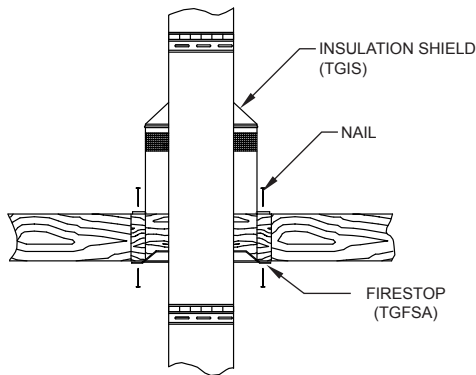
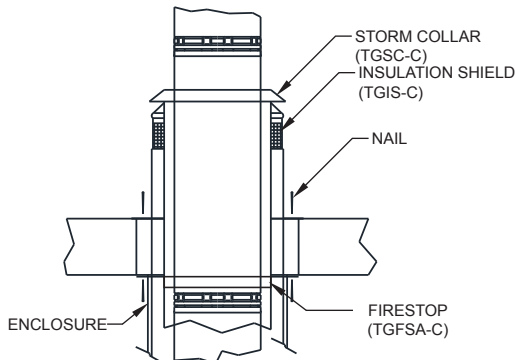
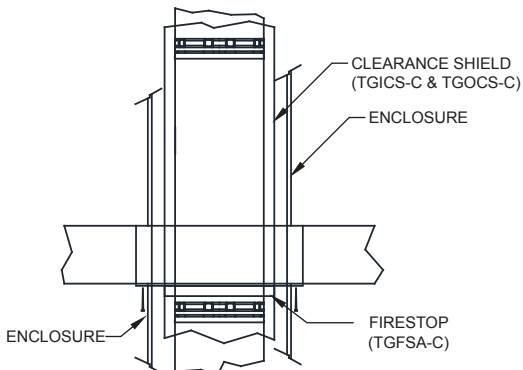

FIG. 6: CHIMNEY IS ENCLOSED BELOW THE ATTIC
FIG. 6a: CHIMNEY IS ENCLOSED BELOW THE ATTIC AND ATTIC IS UNENCLOSED
FIG. 6b: CHIMNEY IS ENCLOSED BELOW THE ATTIC AND ENCLOSED IN THE ATTIC
- The first chimney section through the joist area into attic is to be approximately two (2) feet. If the pipe sections in the levels below and in the attic are not enclosed an insulation shield (TGIS) must be installed. Lower insulation shield (TGIS) over TG pipe until the flange is resting on the joist. Secure the (TGIS) in place by nailing the flange to the joists. (See FIG. 6). If the pipe sections in the levels below the attic are enclosed and the attic is unenclosed an insulation shield (TGIS-C) must be installed. The clearance shields (TGICS-C & TGOCS-C) must extend through the joist area and insulation shield (TGIS-C). The clearance shields (TGICS-C & TGOCS-C) will terminate above the insulation shield (TGIS-C) and a storm collar (TGASC-C) must be used to close the gap between the TG chimney and clearance shields preventing insulation and debris to fall between them (See FIG. 6A and FIG. 6b). If the pipe sections are enclosed through the attic, no insulation shield is required. The clearance shields will need to extend up through the flashing.